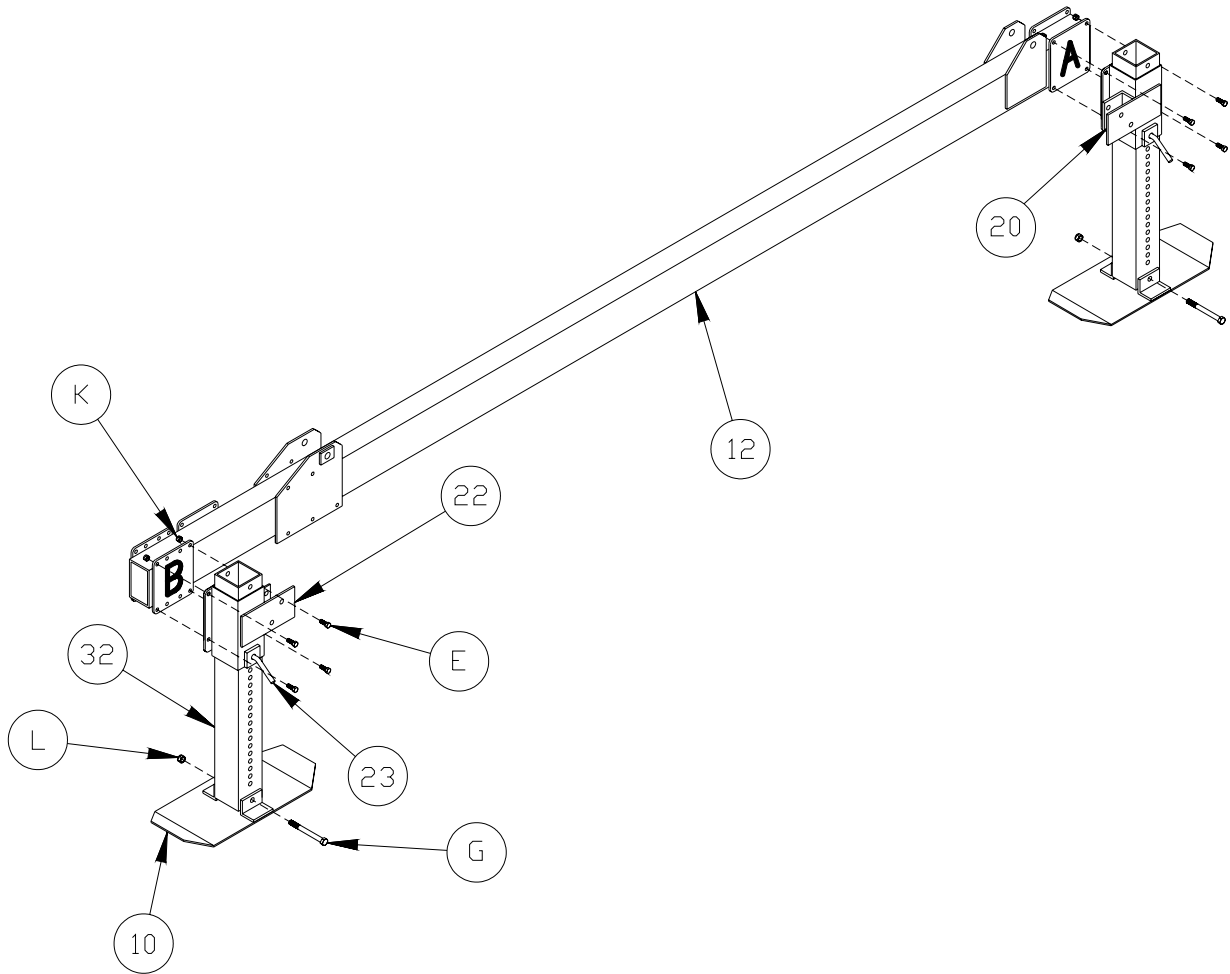
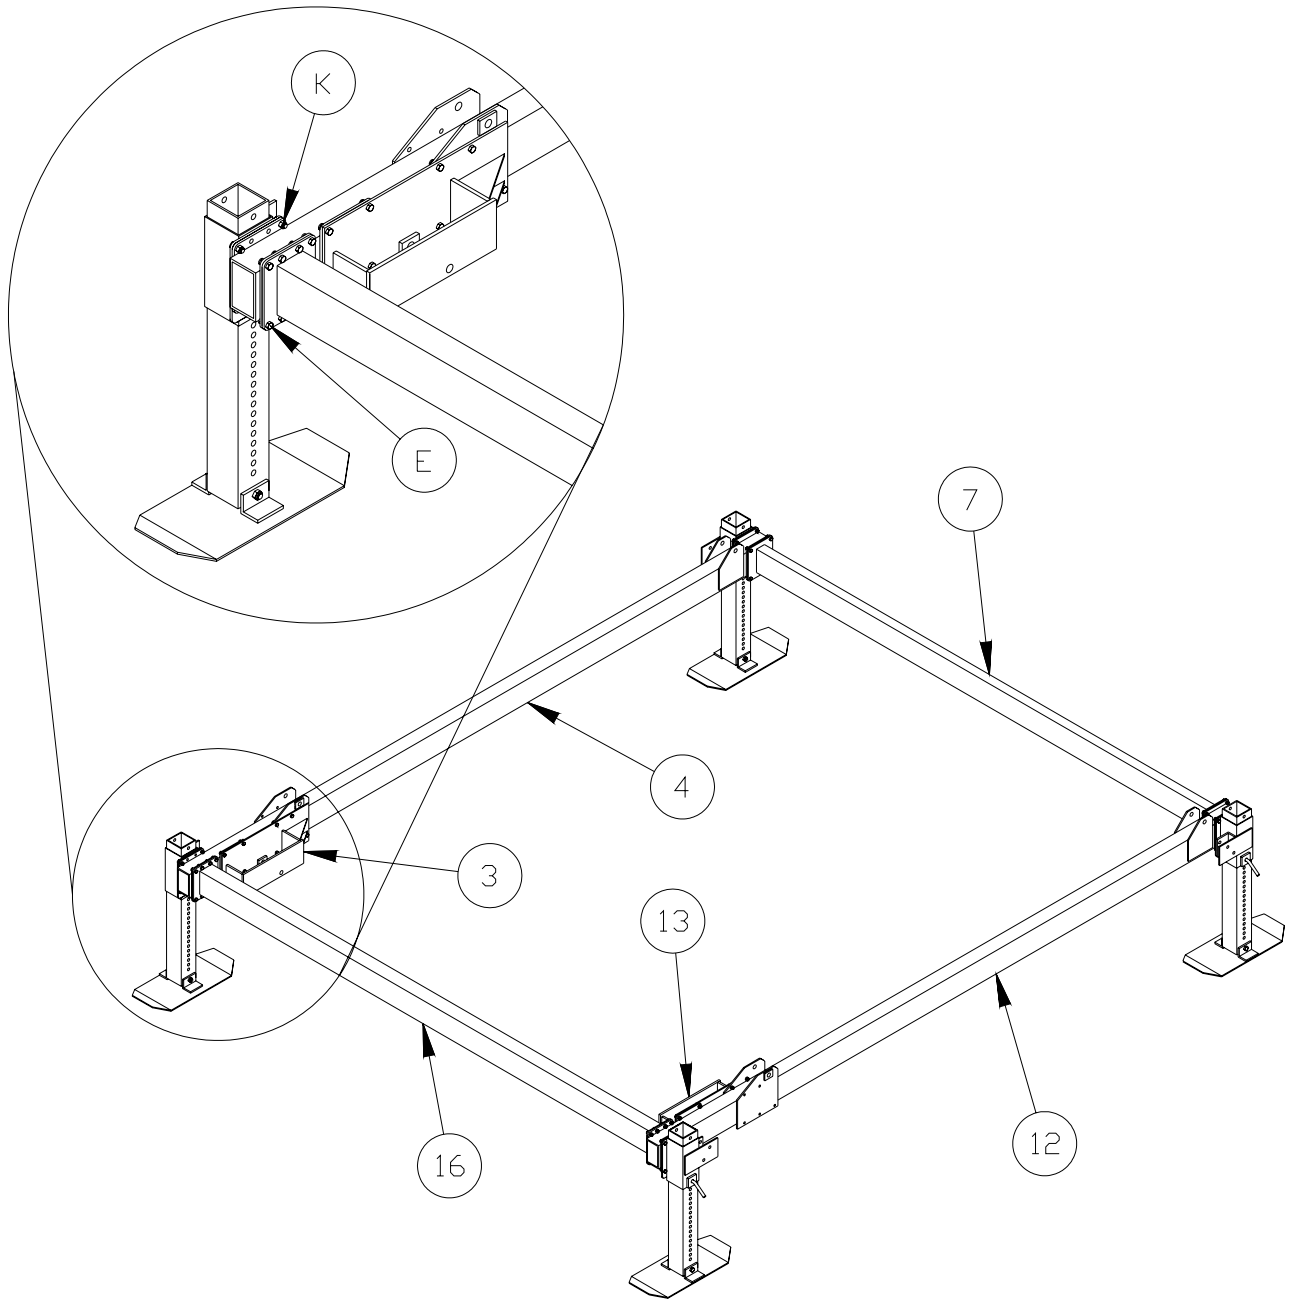

Figure 3-1.
Figure 3-2.
1. Refer to Figure 3-1. Fasten an “A” Leg Pocket Assembly #20 onto “A” side frame mounting flange and a “B” Leg Pocket Assembly #22 onto “B” side frame mounting flange of Right Hand Side Frame #12 using hardware E and K. Repeat this procedure for Left Hand Side Frame #4, refer to Figure 3-2 for orientation.
1. Refer to Figure 3-2. Fasten the Rear Frame Cross Tie #16 between the rear mounting plates (8 hole plates) of the Side Frames #4 and #12 using hardware E and K.
1. **Refer to Figure 3-2.** Loosely attach one cradle bracket angle #17, to each side of Load Tube #8, using the supplied Hex Head Cap Screws **S**, Flat Washers **H**, Lock Washers **R**, and Hex Nuts **T**. The hardware will be tightened after adjustments are made in Steps 6 through 8.